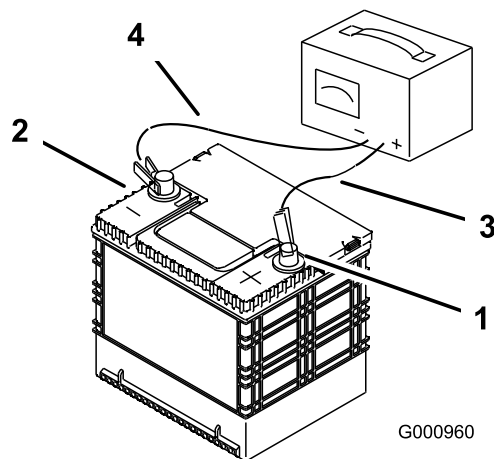

Figure 55
3. When the battery is fully charged, unplug the charger from the electrical outlet, then disconnect the charger leads from the battery posts (Figure 55).